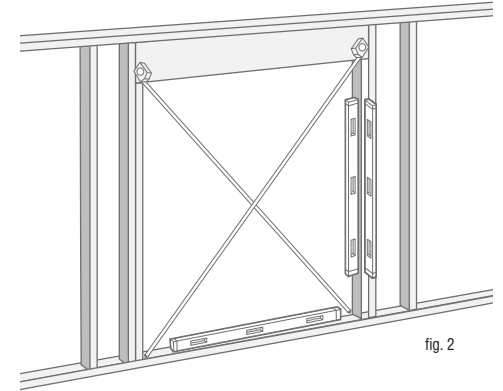

fig. 2
- c. Ensure the jambs are straight, level and plumb, the sill must be level and straight. Check diagonal measurements for the entire frame and adjust shims as necessary until the frame is square. (**See fig. 2**)